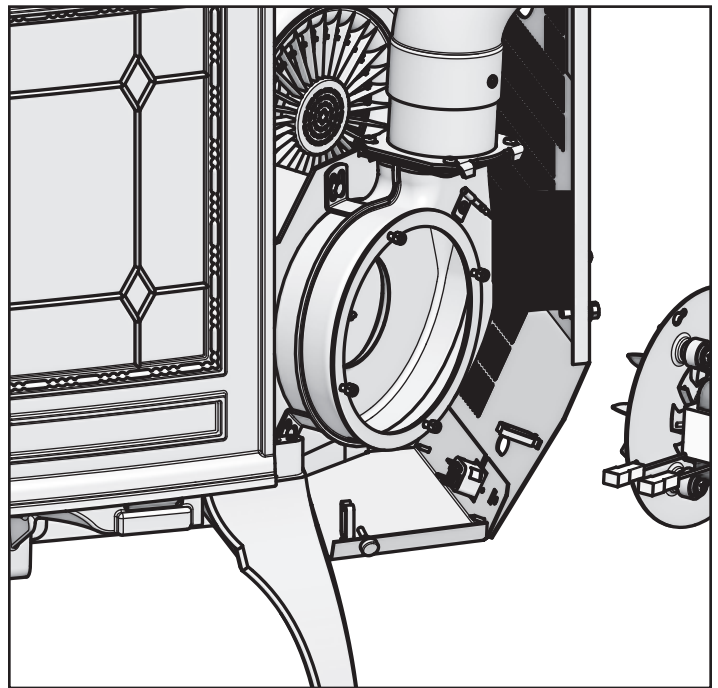

Figure 27.2
2. Remove the right side panel by loosening the 2 screws using a Phillips head screw driver or wrench (**Figure 27.2**).